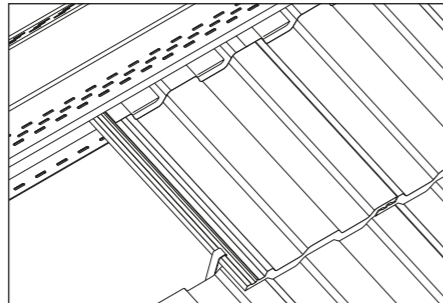

Fig. 5 – Clip top course interlocking tiles
- 8 Insert tile with filler unit into batten section by lifting top flange slightly until nibs engage over upstand and tile is held securely. (The ridge filler unit for Plain/Modern has raised lugs which fit beneath circular beads on batten sections) (Fig. 5).
- 9 Ensure each tile is mechanically fixed by using a standard tile clip located over side lock and nailed to top edge of second course tiling batten (Fig. 5).